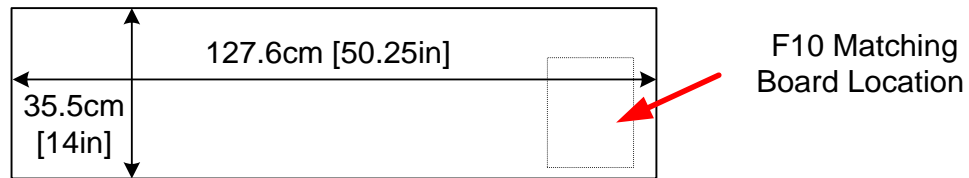
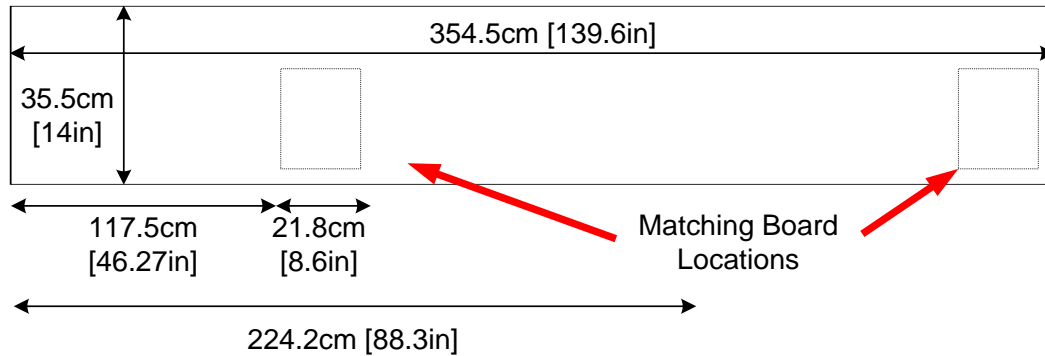
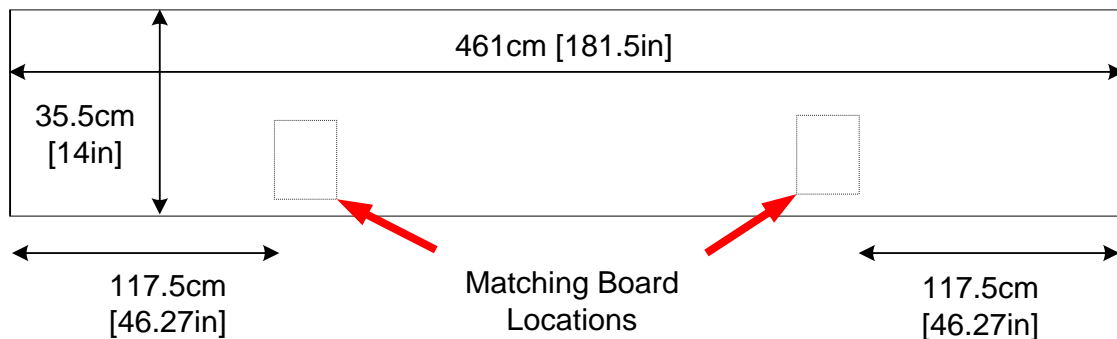

Figure 3.1 Top View of F10, 1 Meter Floor Cut
Figure 3.6 2m and 1m System for 3m Opening
Figure 3.7 Side-by-Side 2m Systems for 4m Opening
It is possible to create a wider system by combining either of the smaller two floor kits (refer to Figures 3.1 and 3.2 above). For example, to cover a 3m mall opening, a 1m and 2m kit are ordered. Figure 3.6 below shows exact dimensions of the trough (floor cuts) when the F10, 1 meter and 2 meter systems are combined. Figure 3.7 shows two (2) F10, 2 meter systems installed side-by-side.